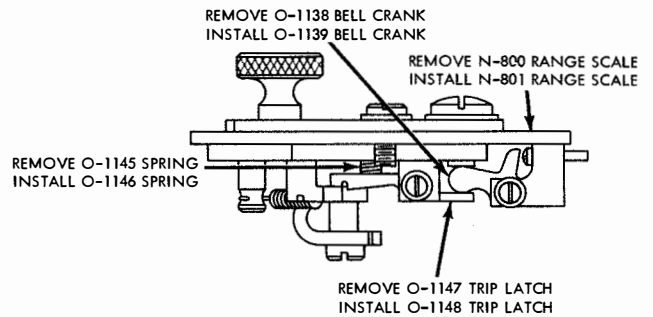

Figure 3-18. Parts Required for Changing Range Scale Assembly to 100 WPM (Experimental) Operation
5. Install the O-1148 trip latch in place of the O-1147 trip latch. (See figure 3-18.)
6. Install the O-1146 trip latch spring in place of the O-1145 trip latch spring. (See figure 3-18.)
7. Install the O-1139 bell crank in place of the O-1138 bell crank. (See figure 3-18.)
8. Install the N-801 range scale in place of the N-800 range scale. (See figure 3-18.)